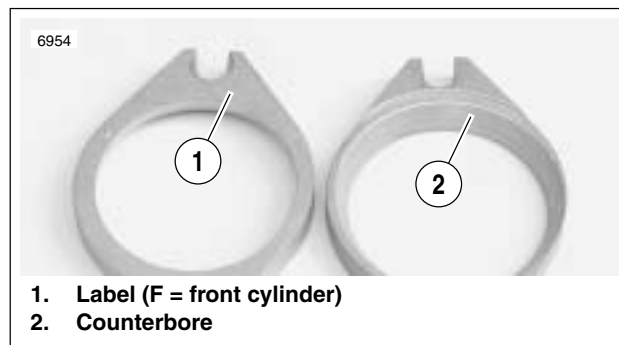

Figure 4-104. Intake Flanges
1. See Figure 4-104. Install front and rear intake flanges onto manifold with the counterbore facing out. Each intake flange is labeled and the pieces are not interchangeable.